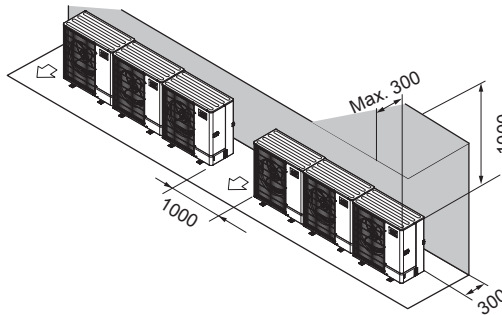

Fig. 1-29
- ② Obstacles at rear and above only (Fig. 1-29)